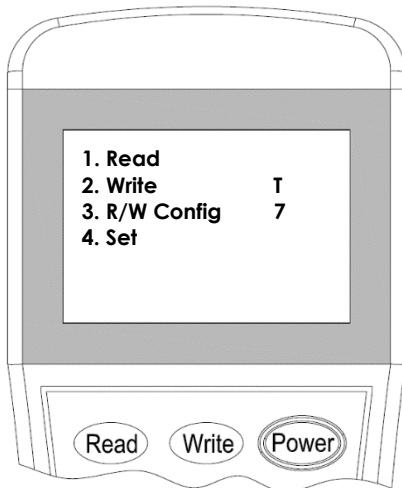

Figure 14
2. Switch-on the programmer, then press button **"4"** to enter to Setting mode (Figure 14). The programmer will display the actual configuration after few seconds.